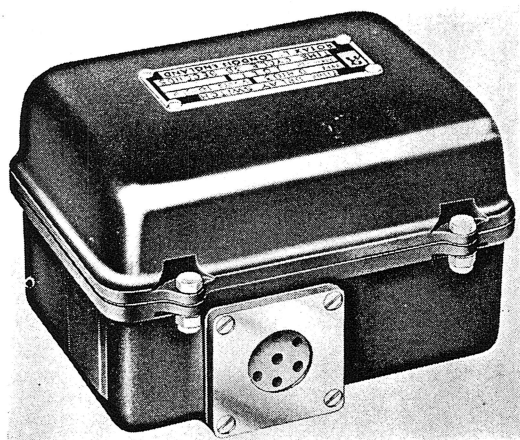

Fig. 1. General view of switch
2. The switch mechanism is housed in two light alloy castings which are bolted together to form a waterproof and flameproof housing (fig. 1).